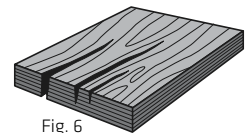

Fig. 6
**End Splits** - A separation that extends through the beam from face to face. End splits are caused by repeated exposure to wet/dry conditions. If an end split exceeds 18", remove the beam from service. (Fig. 6)